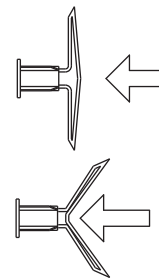

Fig. 3
- 4 Fold the anchor (D) in the middle by pressing in middle with finger (Fig. 3).